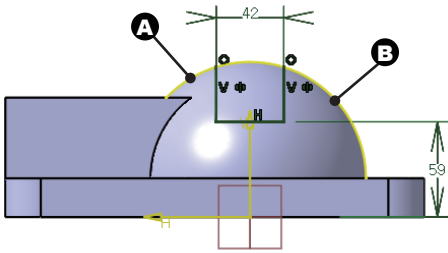

Fig 6-43 Sketch
7. Create a sketch as shown in Fig 6-43. Trim out the portion **A** and **B** of the intersection curve.